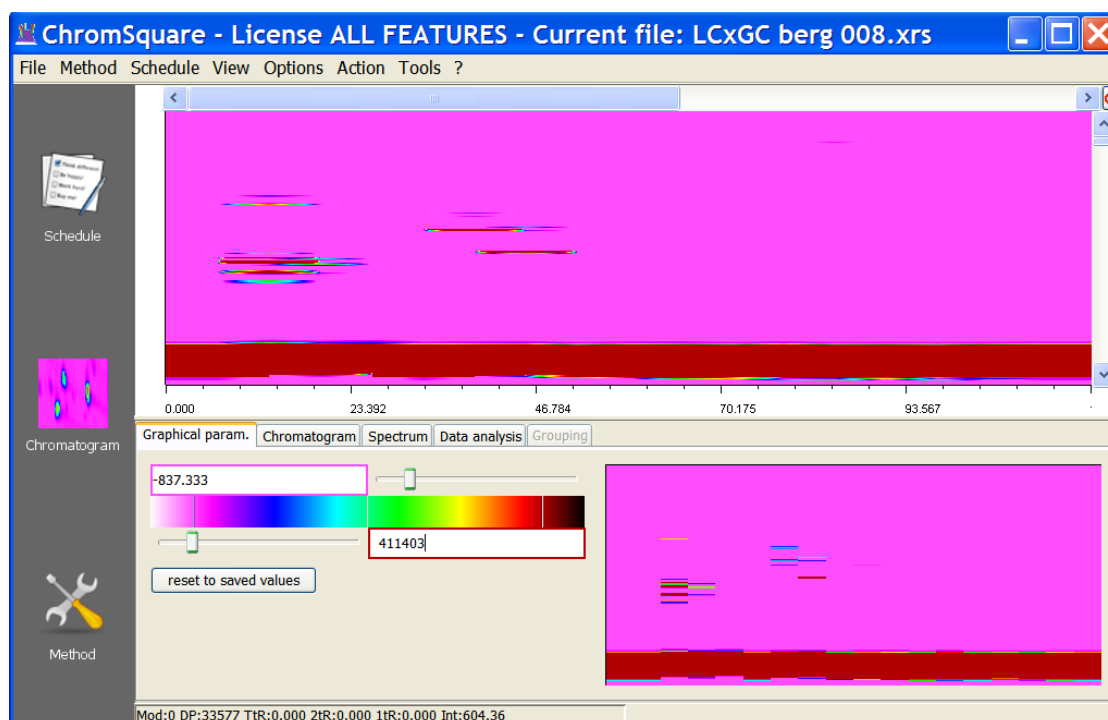

Figure 10.15: The resulting assembled chromatogram
7. At the end of the procedure, the resulting assembled chromatogram is displayed (see Figure 10.15)